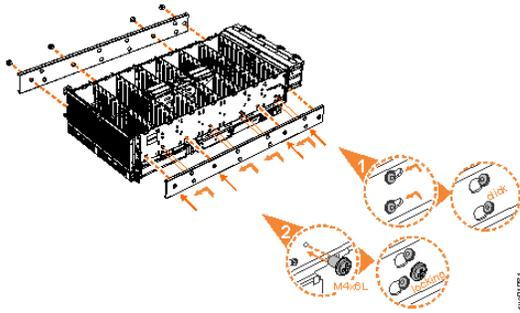

Figure 51. Attaching the inner rail section to the enclosure
5. Install the inner section of the rail onto each side of the expansion enclosure, as shown in Figure 51 on page 92.